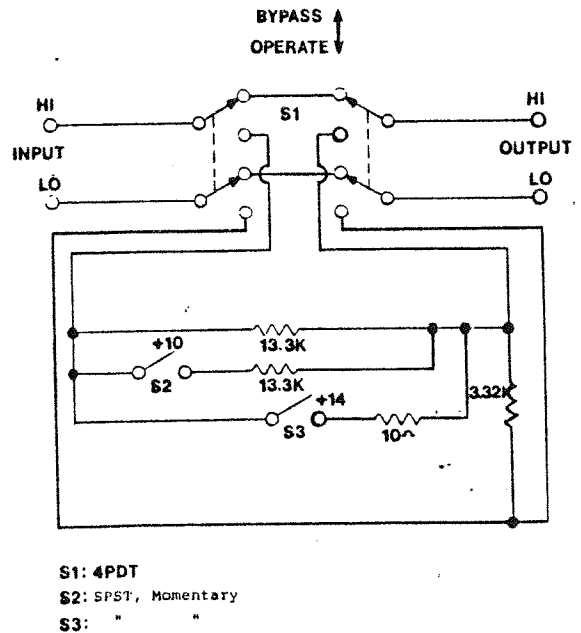

Figure 2. Compellor Final Test Special Fixture
5. Feed inputs through special test fixture per fig 2